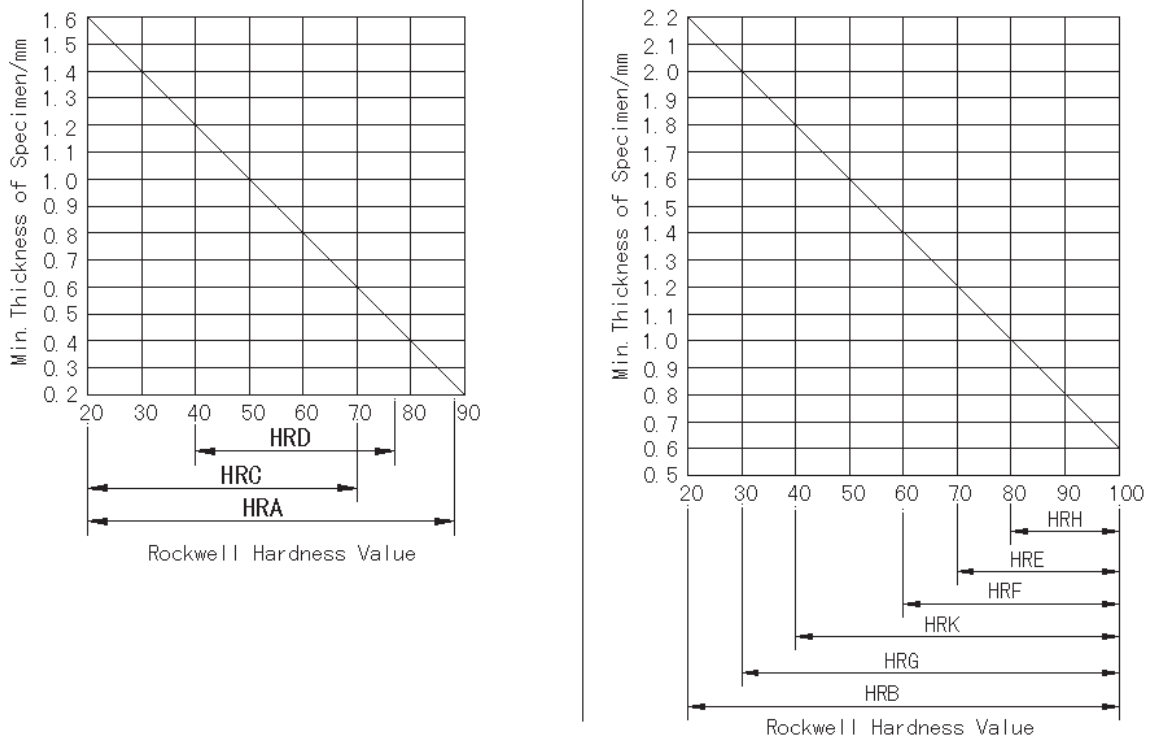

Fig 5-12 Min. thickness of specimen
5.2.2 The Min. thickness of the specimen should be 10 times superior to the depth of the indentation. After the test, the back of the specimen should not have any visible signs of deformation (Fig.5-12).